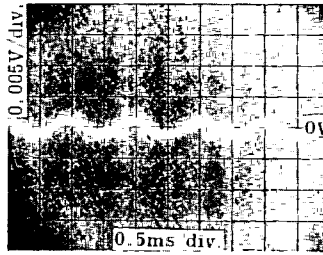

Figure 5-3. Waveform at A4TP3.
- g. Adjust A4R87 OFFSET until dc level of displayed waveform is within 0mV \pm 2mV. Refer to Figure 5-3 which shows well-adjusted waveform.